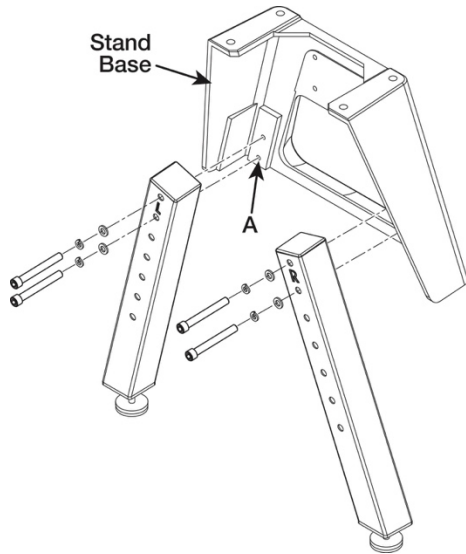

Figure 6-5
2. Lay the stand base sections flat with the inside portion facing up. There are two threaded mounting holes on each side for attaching the legs (A, Figure 6-5).
3. Be sure to use the same two mounting holes on each leg to keep the lathe level. Attach each leg to stand base using two bolts with washers and lock washers (see Figure 6-5). Tighten bolts firmly.
**⚠ WARNING** **Install the legs correctly. Make sure the legs are oriented as shown in Figure 6-5 with the levelers sitting flat on the floor. The legs are side-specific and are marked with either “L” (left) or “R” (right). Installing the legs incorrectly can make the lathe unstable.**